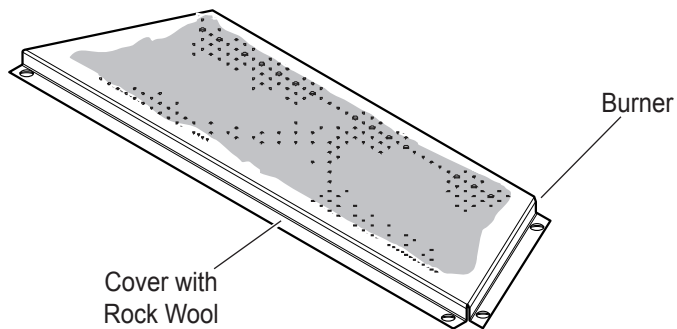

Figure 37 - Placement of Rock Wool on Burner
2. Distribute one layer of rock wool to cover the entire burner. Fill front gap between grate and burner. See *Figure 37*.